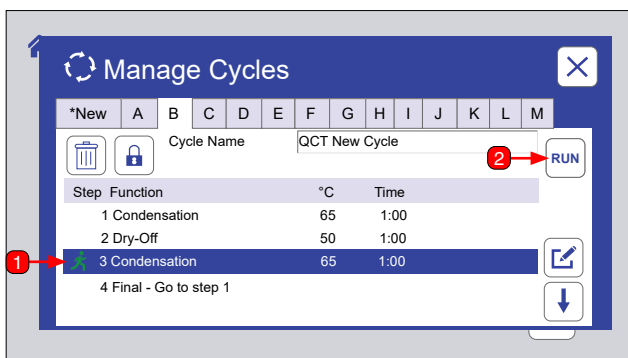
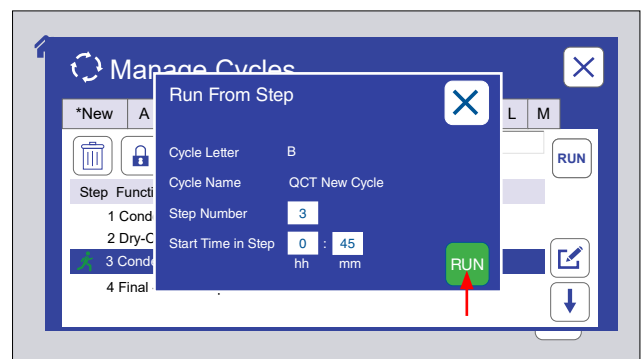

Figure 8.7.8a: A cycle can be run from a specified time in one of its steps. Select the step, then touch the Run icon.
Figure 8.7.8d: Touch the Run icon to run the step from the time entered.
- o Run a cycle from any of its steps (Figure 8.7.8a through Figure 8.7.8d).
- The QCT main controller can store thirteen (13) test cycles.
- A test cycle can consist of up to twenty-five (25) steps.